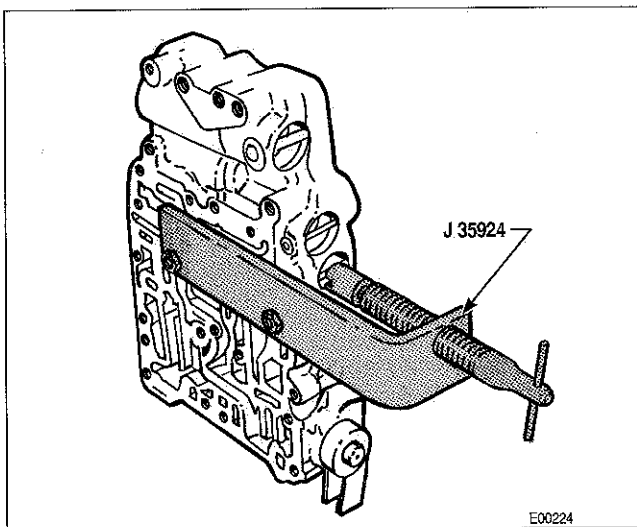

Figure 5-28. Use of Tool to Release Main-Pressure Valve Spring Force
9. Install spring compressor J 35924 (Figure 5-28). Compress spring 119, remove valve retention pin 117, and carefully remove compressor J 35924 after turning handle counter-clockwise to release spring force.
12. Install spring compressor J 35924 (Figure 5-28). Compress spring 119, install valve retention pin 117, and remove J 35924 after turning handle counter-clockwise until the tool clears pin 117.